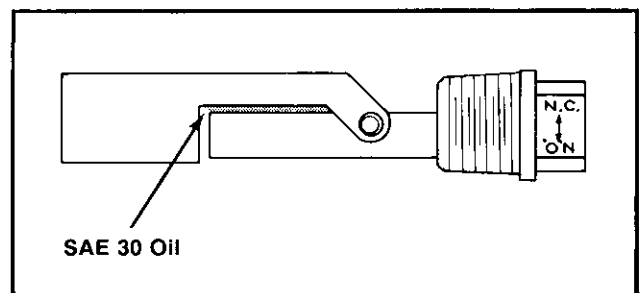

Figure 8-28. Float Switch Removal.
5. Apply a thick film of clean SAE 30 oil to the float and switch body as shown in Figure 8-28.